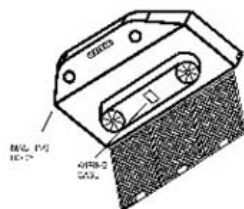

Fig.14
2. Remove screws on wiring case, fish out wires through the knockout. (Fig. 14)